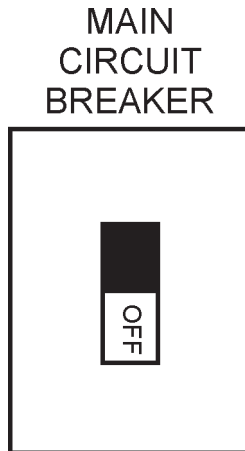

Figure 31. Main Circuit Breaker (OFF)
1. Place both the **main** circuit breaker (Figure 31) to the **OFF** position.
2. Place both the **main** circuit breaker as shown in (Figure 31) to the **OFF** position.